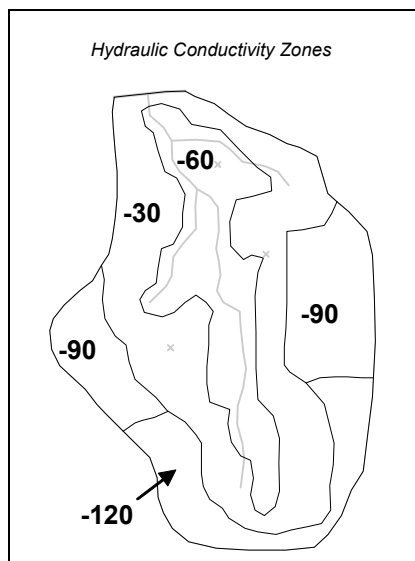

Figure 1. Hydraulic Conductivity Zones and Parameter Key Values.
First we will set up the hydraulic conductivity zones. The hydraulic conductivity polygons are shown in Figure 1. The five polygons will be used to define four parameter zones. The key values associated with each of the four zones are shown on the polygons in the figure.
4. Double click on each of the polygons shown in Figure 1 and assign the appropriate key value to the *Horizontal K* input field.